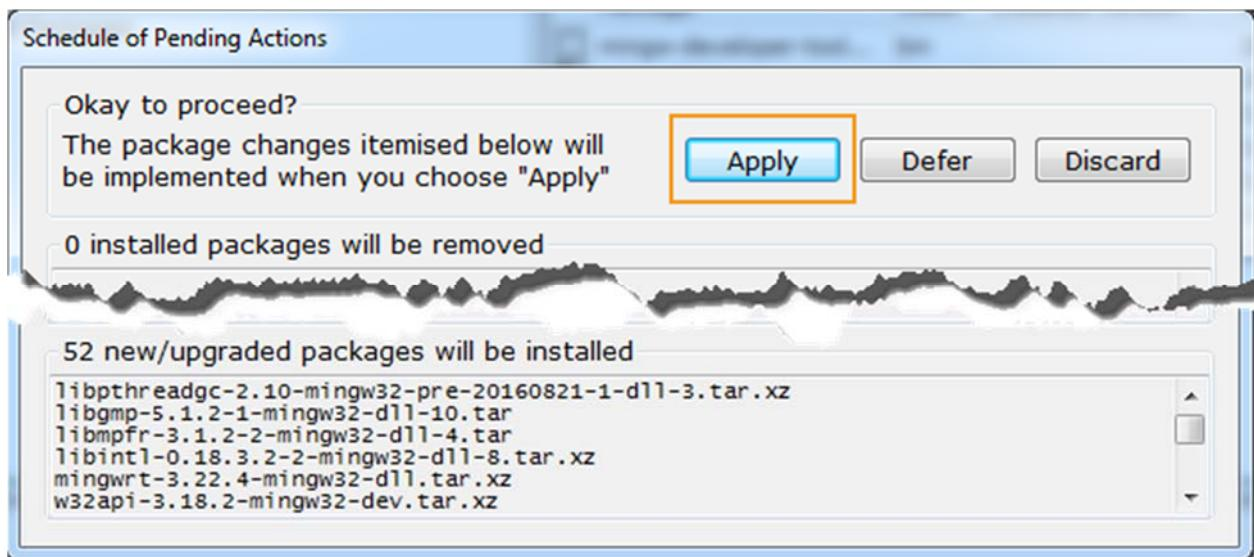

**Figure 27. Basic setup on MinGW Installation Manager**
- 5) Select **msys-base** and **mingw32-base** from **Basic Setup** package list, and right click to bring up the menu options. Click **Mark for Installation** from the menu (see Figure 27).